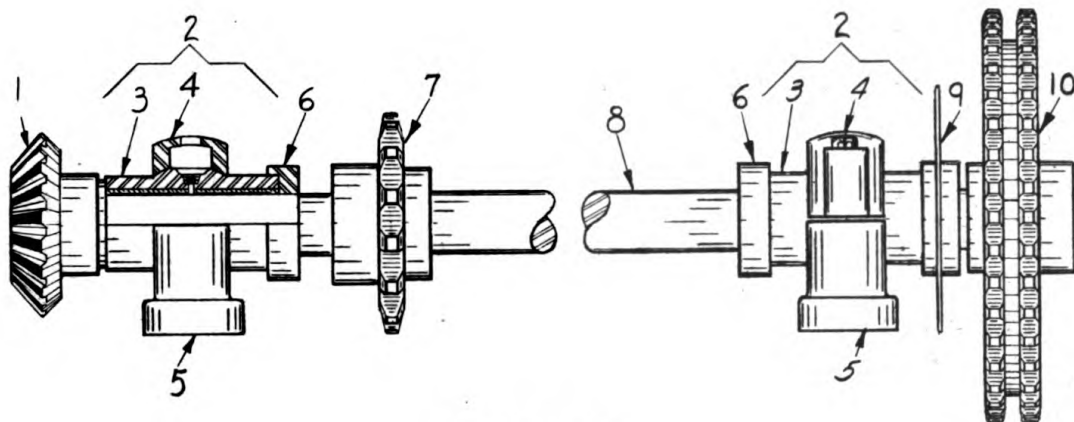

FIGURE 105
1. Parts(1)(Fig.105),(2),(6),(7)are removed before the shaft is removed.
2. Loosen set screws in sprocket hub (10), remove sprocket.
3. Loosen set screws in collar (9), remove collar.